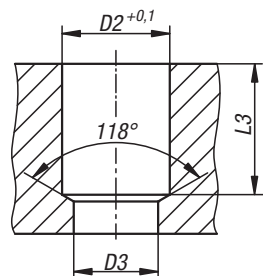

Abb.2
- Counterbored hole D2/D3 in accordance with data sheet (Fig. 2)
- Hole tolerance $D2 = +0.1$ mm (Fig. 2)